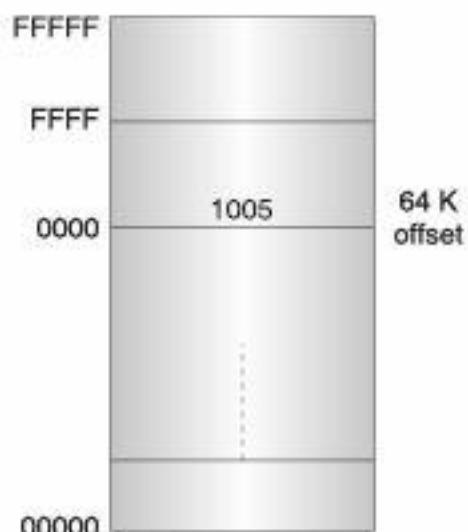

Fig. 4.2 Offset and Segment Address.
The complete architecture of 8086 microprocessor can be divided into two parts, the first part is Bus Interface Unit (BIU) and the second part is Execution Unit (EU). The bus interface unit contains the circuit for physical address calculations and a pre-decoding instruction byte queue (6 bytes long). The bus interface unit makes the system bus signals available for external interfacing of the devices. In other words, this unit is responsible for establishing communications with external devices and peripherals including memory via the bus. The complete physical address which is 20-bit long is generated using segment and offset registers, each 16-bit long. Thus, the segment addressed by the segment value 1005H can have offset values from 0000H to FFFFH within it, i.e., maximum 64 K locations may be accommodated in the segment. The segment register indicates the base address of a particular segment, while the offset indicates the distance of the required memory location in the segment from the base address. Since the offset is a 16-bit number, each segment can have a maximum of 64 K( $2^{16}=64k$ ) locations as shown in Figure 4.2. The bus interface unit has a separate adder to perform this procedure for obtaining a physical address. The segment address value is to be taken from an appropriate segment register depending upon whether code, data or stack are to be accessed, while the offset may be the content of IP, BX, SI, DI, SP or an immediate 16-bit value, depending upon the addressing mode.